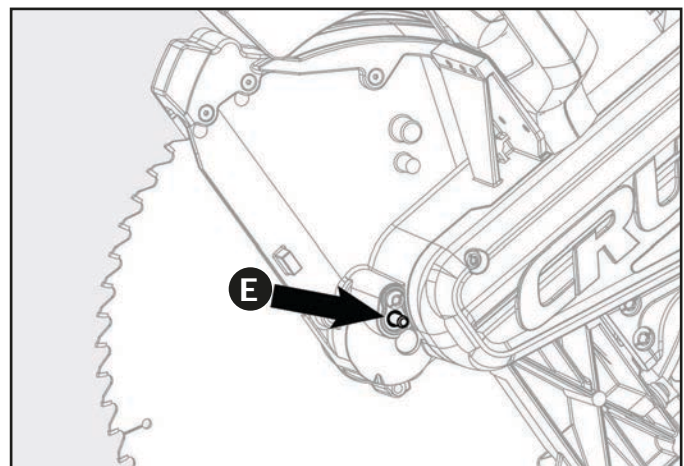

Figure 12
7. Press the spindle lock button (E). See figure 12.
9. Align the double "D" flats on the blade washer (F) with the flats on the spindle and fit the washer onto the spindle.
10. Lock the spindle by depressing the spindle lock button. Screw on the blade bolt (D), remembering to thread it counter clockwise. Tighten blade bolt securely using the provided blade wrench.